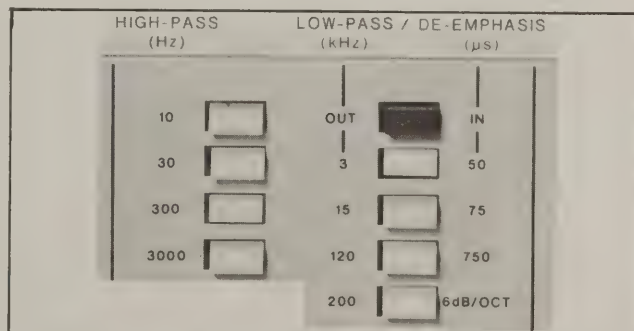

Figure 1-3 Filter Selection Capabilities
c. **Pushbutton Filter Selection.** Baseband filter flexibility permits accurate modulation measurements in the presence of noise and/or spurious signals. (See Figure 1-3.)